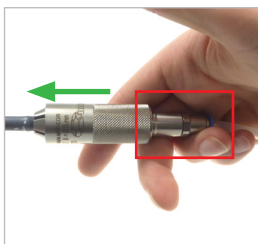

Figure 9
- Hold the connector at the lower part (Pos. 2) and at the media inlet with one hand (see area outlined in red) and press against the test piece (green arrow, *Figure 9*). Then pull the sliding sleeve (Pos. 1) backwards.